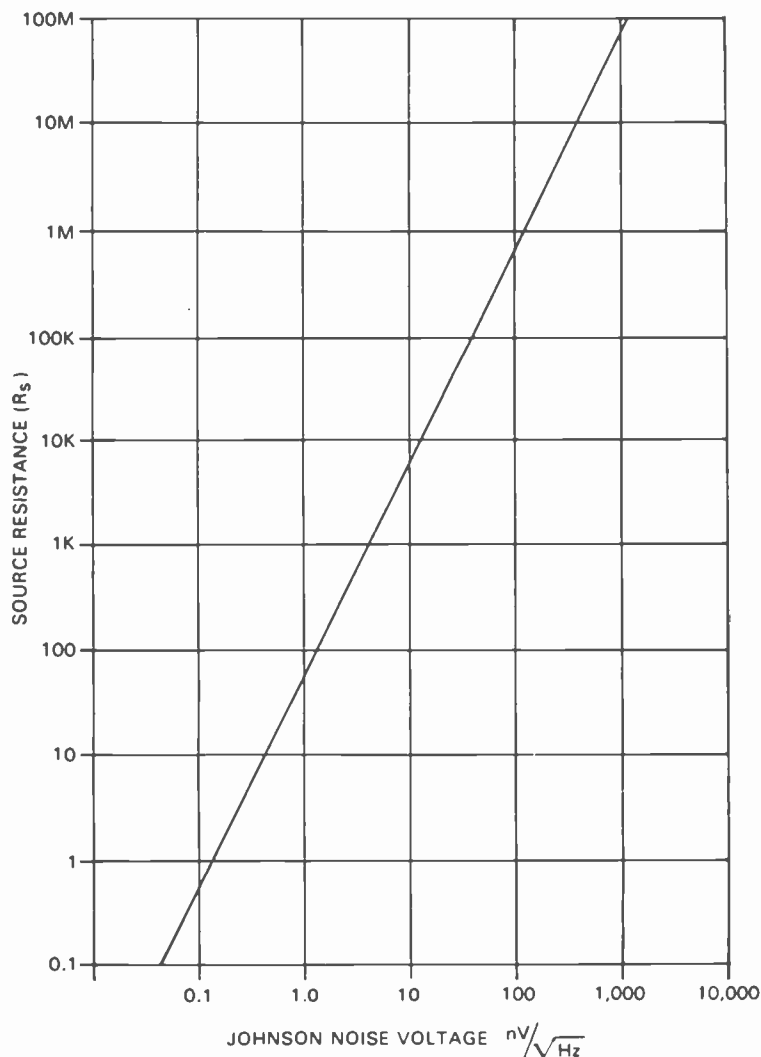

Figure 2.
This equation is plotted in Figure 2 for source resistances over the range of 0.1 ohm to 100 megohms.
Johnson noise alone. The Johnson noise from a given source resistance can be obtained from Figure 2. The amplifier noise plus Johnson noise can be calculated by solving Equation 3 for this value as follows:
1. From Figure 2, the Johnson noise for the 10 kilohms source resistance is approximately $12 \text{ nV} \cdot \text{Hz}^{-1/2}$.